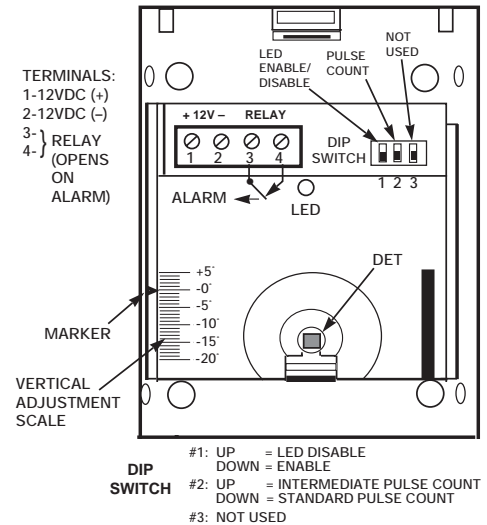

Figure 5. Wirng Connections
4. Mount the base. **Note the mounting orientation of this detector – wire entry at the top, lens at the bottom!** Make sure the board is positioned so that the arrow is in line with the appropriate setting on the graduated scale (see Fig. 5 and Table 1).
Note the mounting orientation of this detector – wire entry at the top, lens at the bottom! Make sure the board is positioned so that the arrow is in line with the appropriate setting on the graduated scale (see Fig. 5 and Table 1).
The protection pattern can be raised or lowered by re-positioning the PC board in the detector. A graduated scale to the left of the board (see Fig. 5) indicates the approximate number of degrees by which the pattern can be raised (max. +5°) or lowered (max. -20°). To make this adjustment, slide the board upward or downward by the number of degrees required. After any adjustment, conduct a walk test to ensure proper coverage of the area to be protected (see "Test Procedures").
Bring all wires through the wire access slot at the top of the detector base (near the terminal block) and connect to the screw terminals (see Fig. 5 for wiring details). Seal any openings in the base with foam or RTV (not supplied) to prevent drafts or insects from entering the unit. *Apply power only after all connections have been made and are inspected.*
To enable the LED, set the DIP switch #1 **DOWN** (see Fig. 5 for switch location). **To disable the LED,** set DIP switch #1 **UP**. Use a small pointed tool to move the switch handle up or down.
For Intermediate Pulse Count, set the Pulse Count DIP switch #2 **UP** (see Fig. 5 for switch location). **For Standard Pulse Count,** set DIP switch #2 **DOWN**. Use a small pointed tool to move the switch handle up or down.